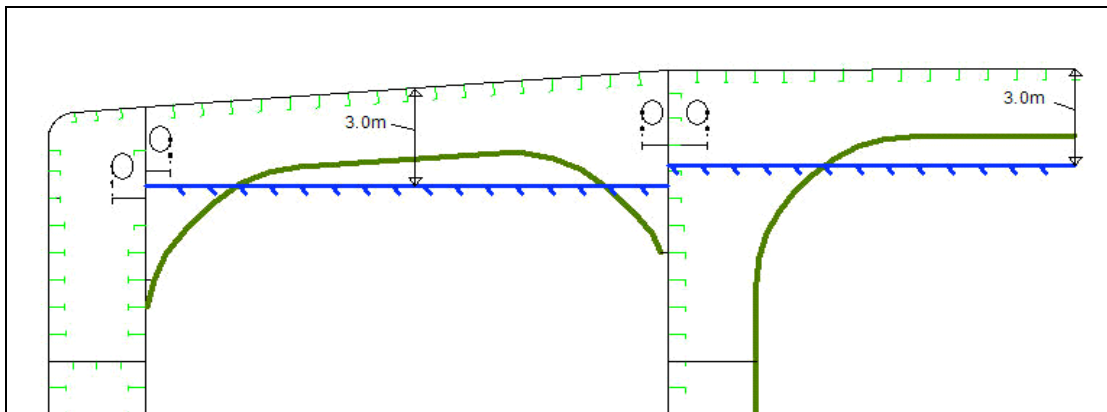

Figure 1
- ii. access to deck from a longitudinal permanent platform having ladders to deck in each end of the tank. The platform shall, for the full length of the tank, be arranged in level with, or above, the maximum water level needed for rafting of under deck structure. For this purpose, the ullage corresponding to the maximum water level is to be assumed not more than 3m from the deck plate measured at the midspan of deck transverses and in the middle length of the tank. (See Figure 1).